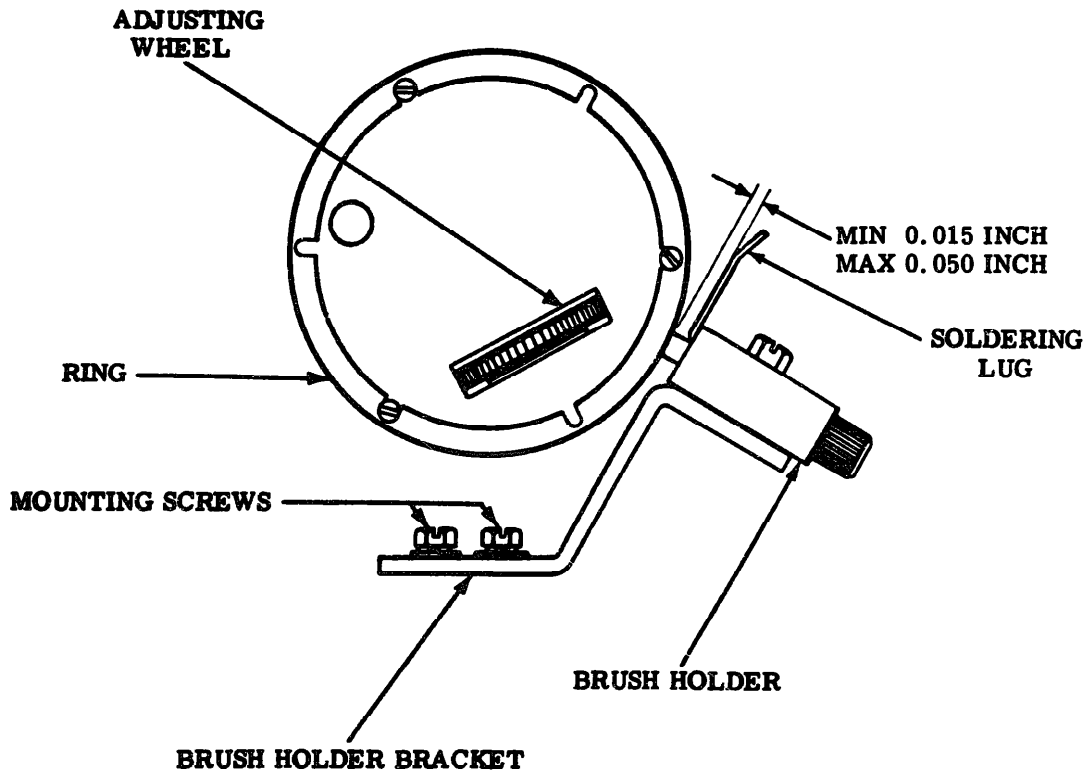

Figure 14- Governor Adjusting Wheel
**To Adjust:** Reposition bracket by means of its mounting screws. (See Figure 14.)
**To Adjust:** Loosen the brush-holder mounting screws and reposition the brush holder. Tighten the mounting screws. (See Figure 14.)
(5) **Two-speed Governor-adjusting-wheel Detent-spring Pressure:** The detent spring shall rest on the adjusting wheel; (1) in all positions of the adjusting wheel,
outer shell of the governor between the brushes and the shell and rotate the governor back and forth by hand. The last rotation shall be in the normal direction of travel. (See Figure 14.)